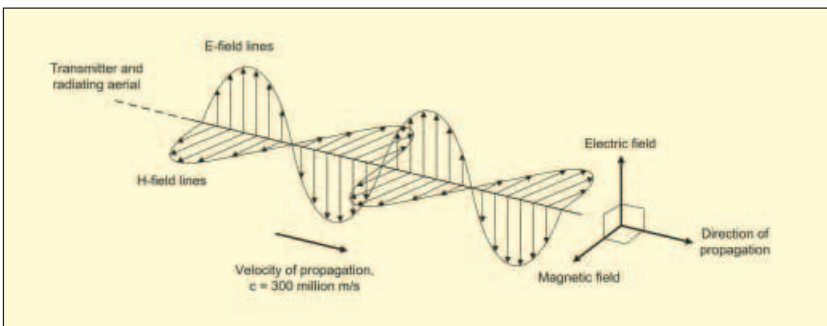

Fig.11.1. An electromagnetic wave
As with light, radio waves propagate outwards from a source of energy (the transmitter and transmitting aerial) and comprise electric (E) and magnetic (H) fields at right angles to each other. These two components, the E-field and the H-field, are inseparable and the resulting wave travels away from the source with the E and H lines mutually at right angles to the direction of propagation, as shown in Fig.11.1.